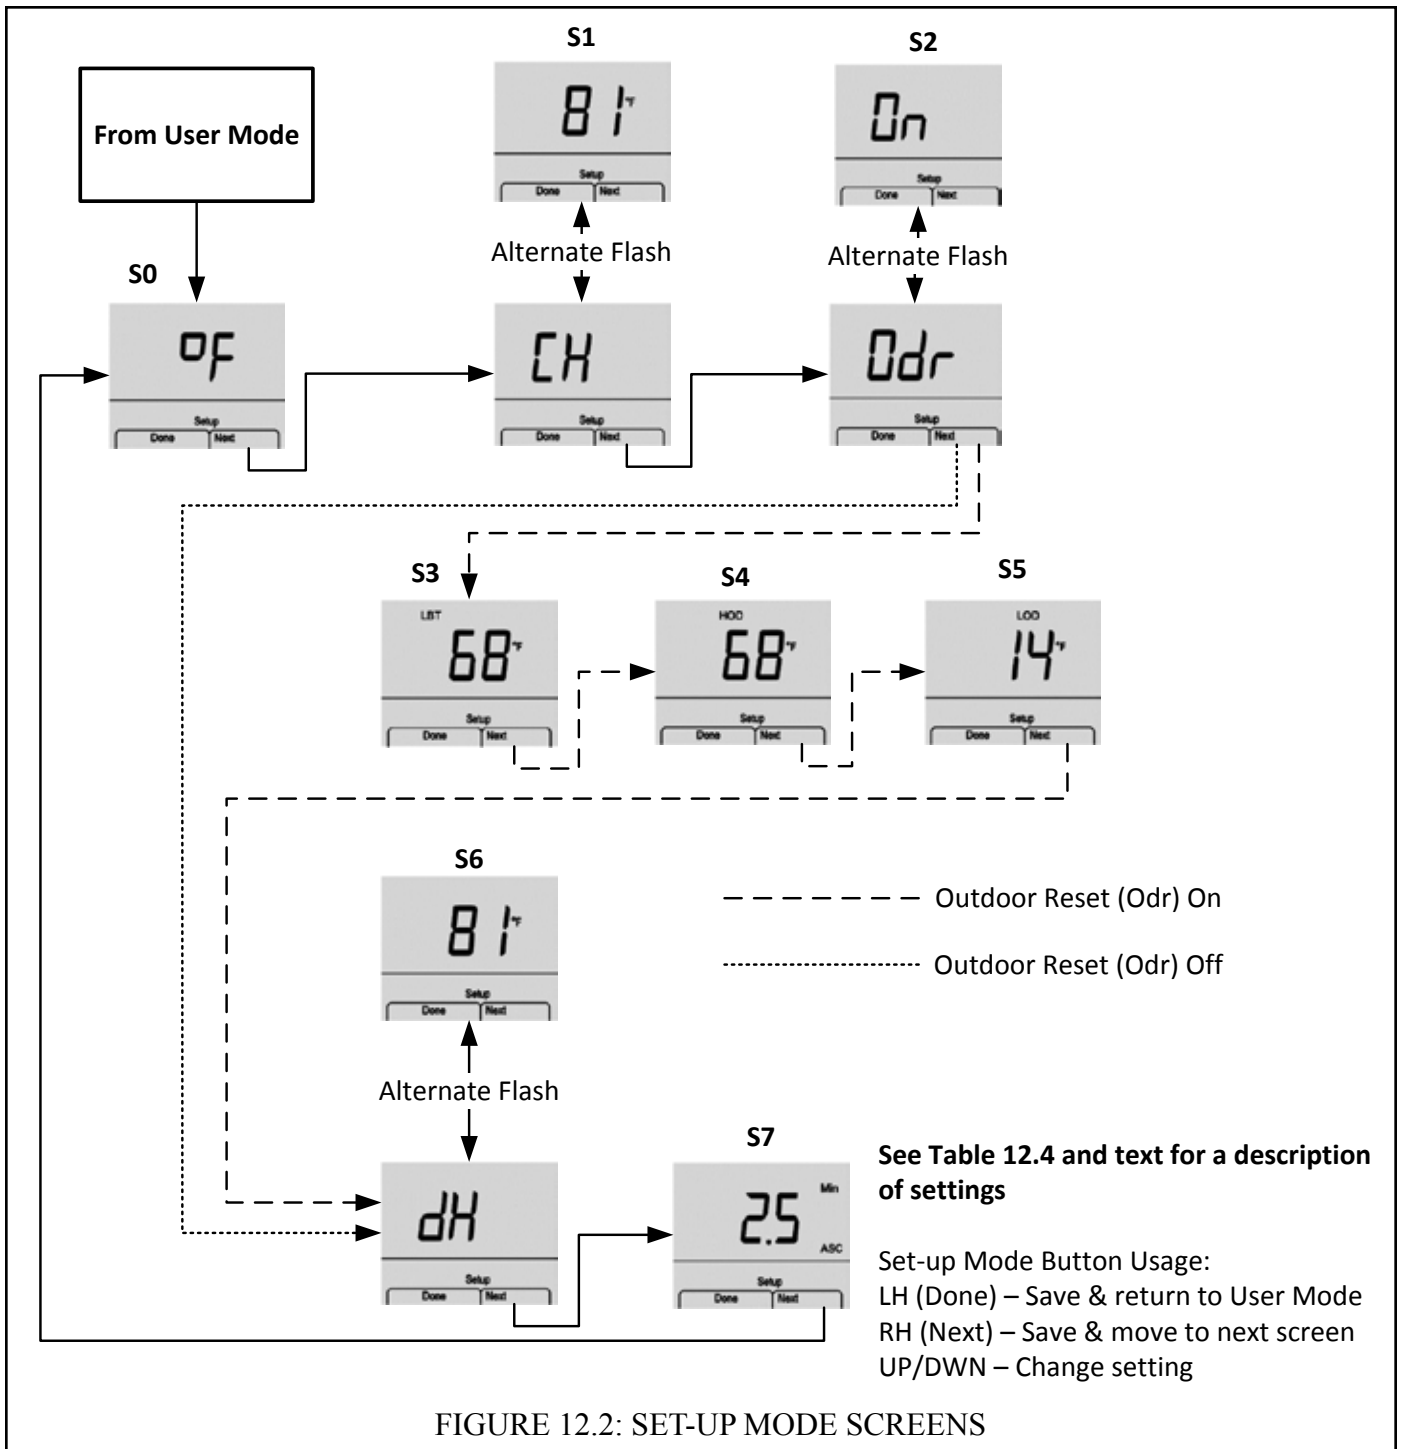

FIGURE 12.2: SET-UP MODE SCREENS
- 2) **Set-up Mode** – This mode is used to adjust settings, such as target water temperature. To reach Set-up Mode, hold both the Up and DWN keys for at least 3 seconds. All Set-up Mode screens are shown in Figure 12.2 and all settings are described in more detail in Part B of this section.
Enter Set-up Mode by pressing and holding both the UP and DWN buttons for at least 3s. The RH (Next) button advances through the screens on this menu, saving any changes on the way. The LH (Done) button saves changes and returns to User Mode. All Set-up Mode screens are shown in Figure 12.2. A description of each is as follows: